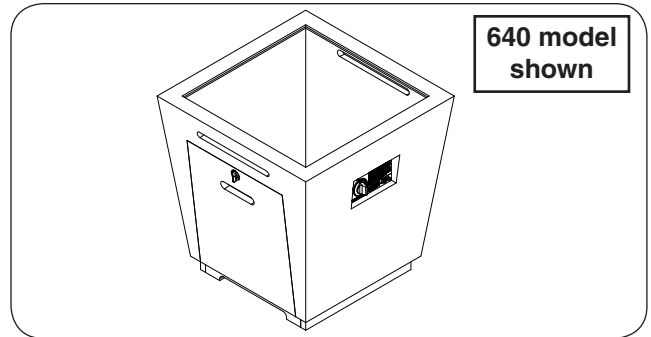

Fig. 25-1 Place base
1. **CAREFULLY** place the base in an appropriate location (see Fig. 25-1, and refer back to the LOCATION section if needed).